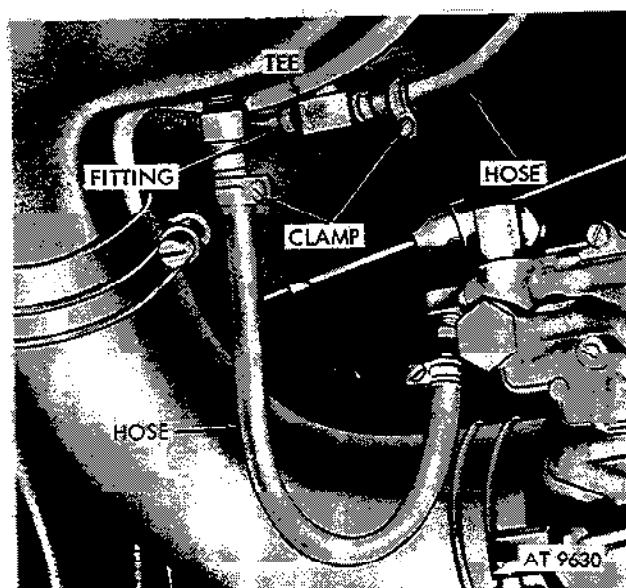

Figure 2-89. Remove vent hoses (Holley).
(2) Loosen clamp on carburetor float chamber vent hose, (Holley Carburetor only). Pull hose from tube (fig. 2-89).
(3) Unscrew fuel tank vent hose fitting. Loosen clamp on fuel pump safety switch (oil pressure safety switch) vent hose. Pull hose from tee (fig. 2-89).